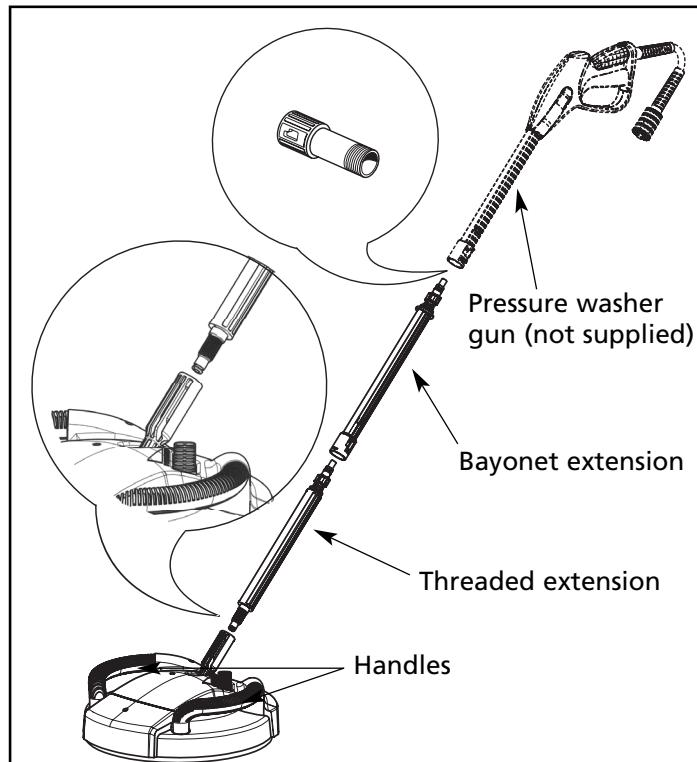

Figure 1
- Attach threaded extension into surface cleaner base. **Do not overtighten.** Base should rotate easily around extension as shown in Figure 1.
- Attach bayonet extension to first extension and base. Slide bayonet fitting into extension receptacle. Turn clockwise, as shown in Figure 1.
- Attach adapter to your pressure washer gun as shown in Figure 1.
- Attach to pressure washer gun as shown in Figure 1.